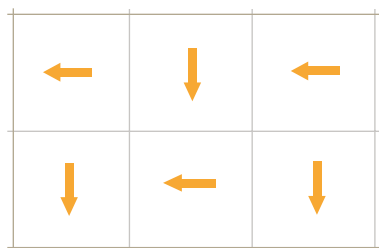

Figure 13: The squares are installed with changing fiber direction.
- ❗ Dinesen recommends laying the individual squares in a Squares floor with alternating fibre direction by rotating each square in a row 90 degrees in relation to the previous square in the same row and to the adjacent square. See Figure 13.